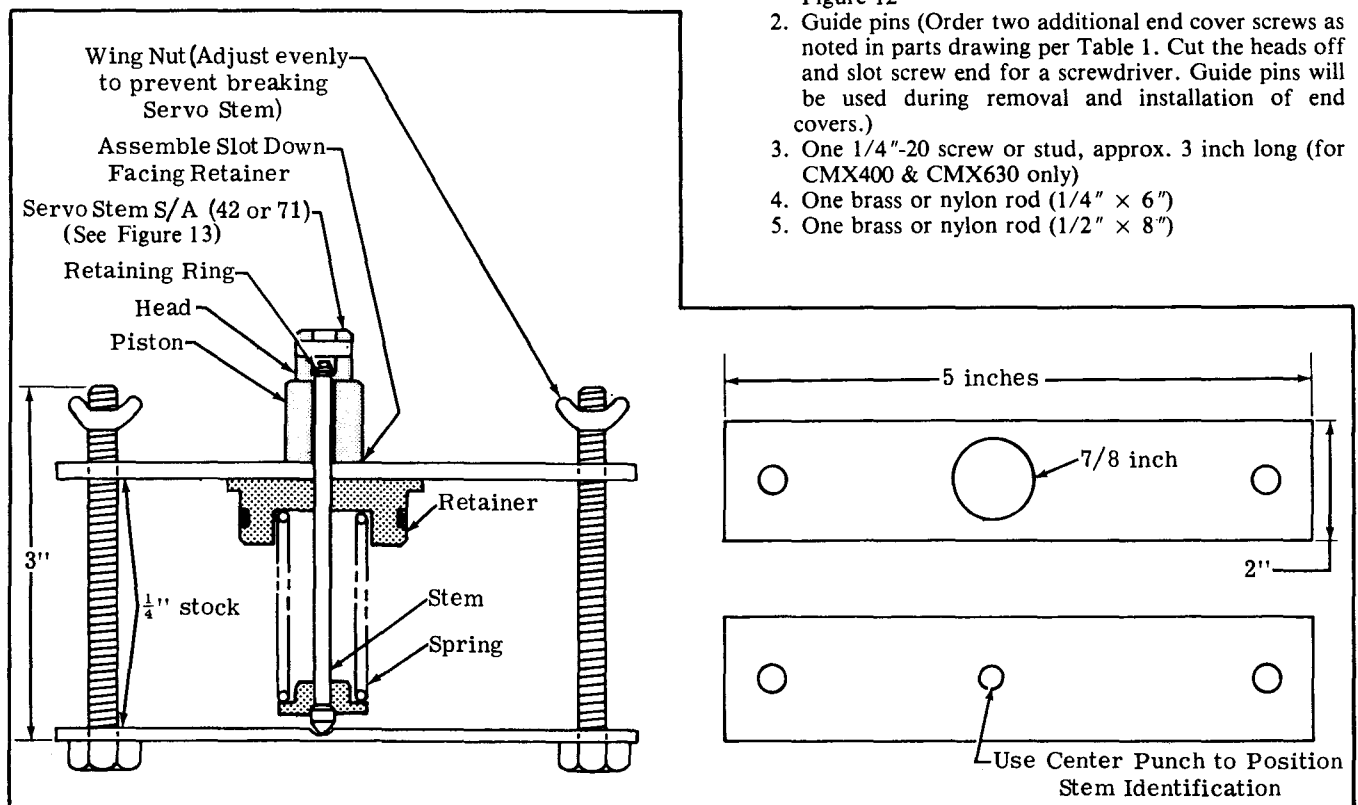

Figure 12. Servo Stem Spring Compression Tool.
1. Spring compressor assembly tool (optional). See Figure 12